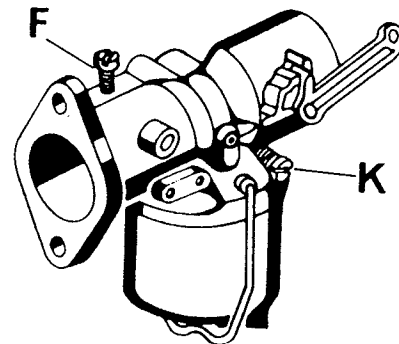

Fig. 7
- At idling speed, the correct fuel-air ratio is obtained by adjustment of the idling mixture screw (K, Fig. 7). The idling mixture screw has to be closed carefully, then unscrewed by 1 1/4 turn (basic adjustment).
- After the engine is warmed up at its normal operating temperature, set the idling speed in accordance with the specifications (about 1 000 r.p.m.) by adjusting the throttle stop screw (F, Fig. 7). Check the engine speed with a revolution counter.
- The idling mixture screw (K, Fig. 7) has to be screwed in resp. out until the engine speed does not increase any more and a smooth operation is obtained.
- The required idling speed can be set with the throttle stop screw (F, Fig. 7). The engine speed should accelerate frankly without «hunting». In the opposite, the idling mixture screw (K, Fig. 7) has usually to be adjusted for a richer mixture but sometimes it may also be necessary to lean the mixture.